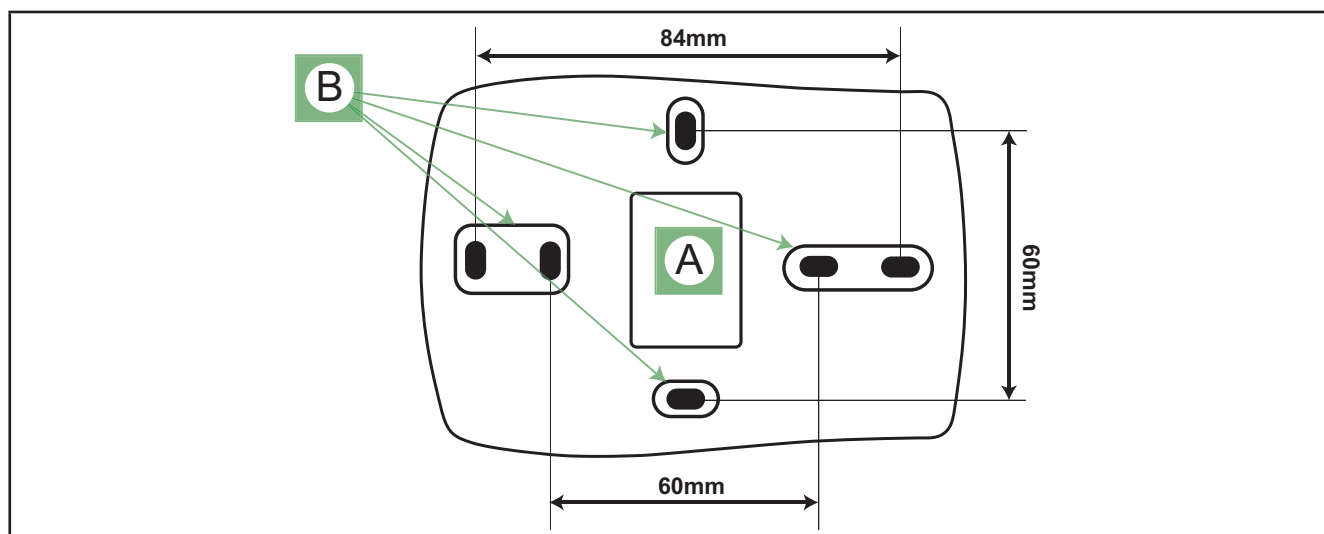

Fig. 12. Holes
5. Drill two appropriately spaced 4mm holes in the wall where the device is to be mounted (see **Fig. 12 on pag. 22**, point B).
6. The cables must pass through the hole in the centre of the device's back panel (see **Fig. 12 on pag. 22**, point A).